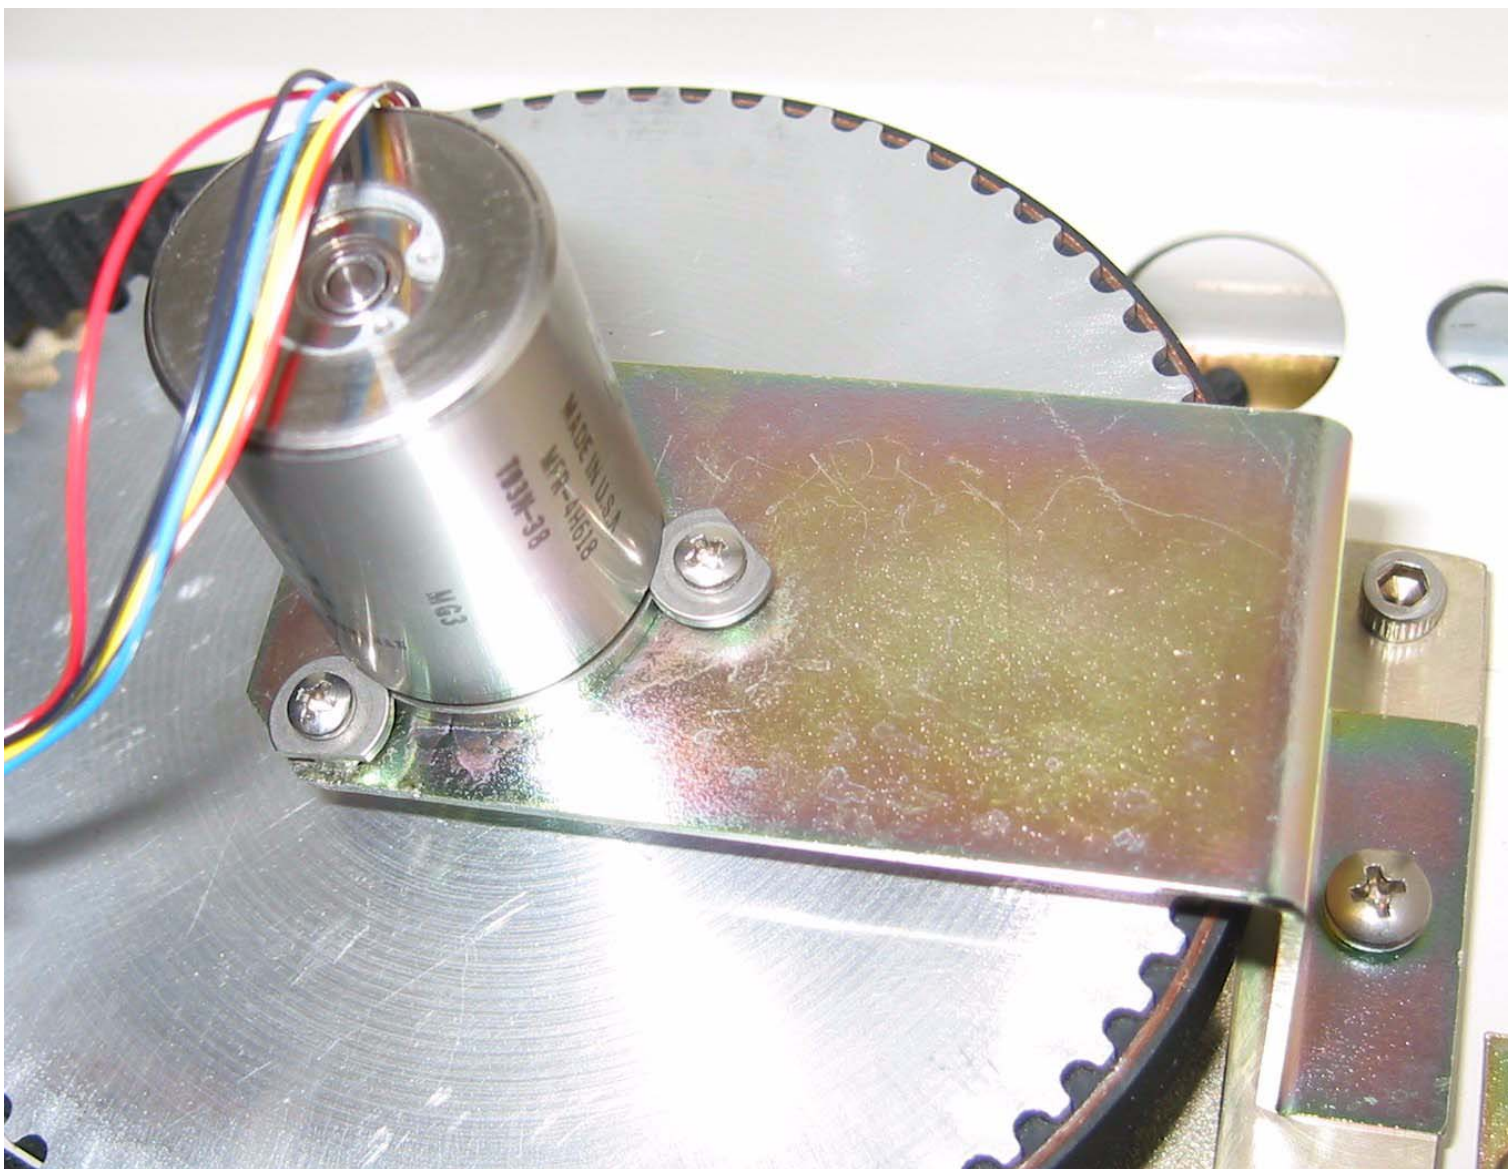

FIGURE 5 CLEAT RETAINING WASHERS INSTALLATION
3. Loosen the three Cleat Screws and turn the Cleat Retaining Washers so the flat edge faces away from the resolver. Ensure that the Cleat Retaining Washers fit into the groove on the side of the Resolver. Refer to Figure 5.